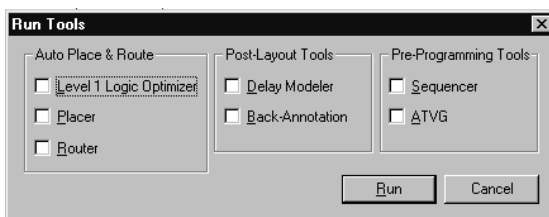
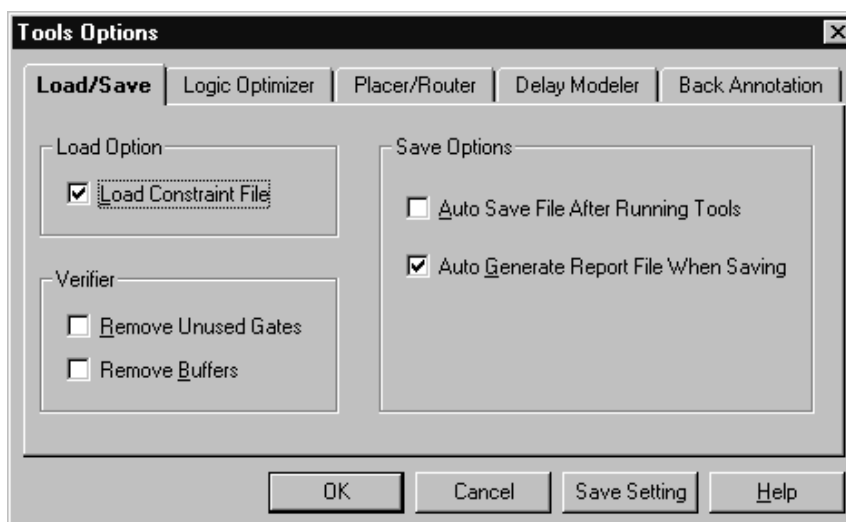

Figure 7 Select Tools To Run dialog box
Figure 8 General Tools Options window
*Run Selected Tools* opens the *Run Tools* window (Figure 7). This window is used to select which tools are to be run on the design. Two types of logic optimization can be run. This selection is made in the *SpDE Tools Options* window (Figure 8). Disabled tools are grayed out. Tools that have already been run are in black color. To run a tool check the box in front of it. Detailed descriptions of the Logic Optimizer, Placer, Router, Delay Modeling, Back-Annotation, and ATVG tools can be found in Section 4, “SpDE Design Tools.” The Sequencer tool is only used to create data needed to program devices and has a short description in that section.
*Options* pops up the *Tools Options* window. The *Tools Options* window is shown in Figure 8. The *Tools Options* window is used to configure each of the SpDE tools. A detailed description of each tool’s options can be found in section 4, along with the description of the tool.
Figure 8 shows two options which direct SpDE to take certain actions on the design while importing it. If the *Remove Unused Gates* option is checked, all gates which are floating or are driving nothing will be removed from the design. If the *Remove Buffers* option is checked, all buffers will be removed. Buffers are defined as one input one output non-inverting gates which are implemented in A or F fragments and are such that their output does not drive their input.